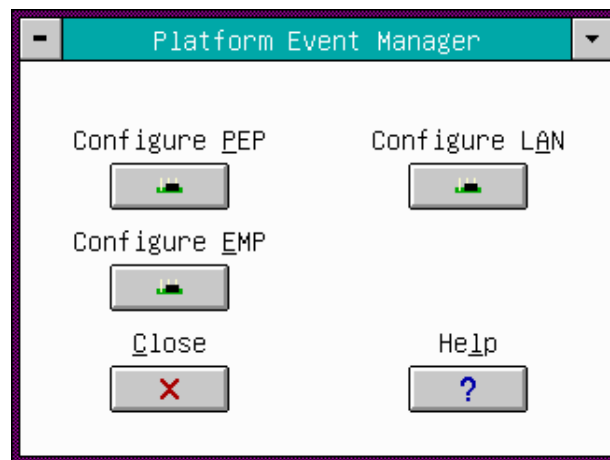

Figure 43: Platform Event Manager Main Window
The PEM presents a main window to the user and supports several features (see Figure 43). These features appear in additional detail in the following sections. Note that each option included on the main window supports an accelerator key. An underlined letter in the text listing the option in VGA mode indicates accelerator keys. In text mode, accelerator key letters appear highlighted rather than underlined.
- **Configure Event Actions:** Launches the Platform Event Paging Actions Dialog (see Figure 43) to allow you to configure event actions.
These similar dialogs allow you to configure the Platform Event Action features for PEP and BLA (See Figure 43). If an event is in the enabled listbox, it will generate the appropriate action when it occurs. If an event is in the disabled listbox, it will not generate an action when it occurs. Enable global action for events to generate actions. This global flag is in the PEP or BLA dialogs as 'Enable PEP' or 'Enable BLA' checkboxes.